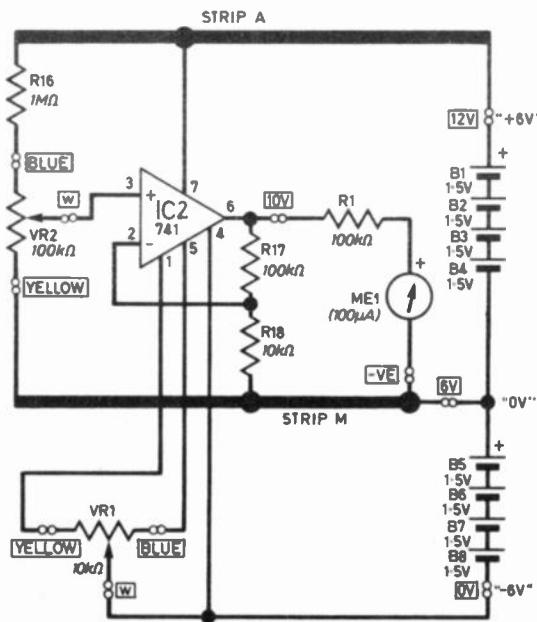

Fig. 7.16. The circuit of a non-inverting op-amp amplifier with fixed gain and offset null control.
Fig. 7.16 shows feedback being taken from a potential divider (R17/R18), so
- 7.9. If pin 3 (Fig. 7.16) is taken to -0.1V, what will be the output at pin 6?
- 7.10. In Fig. 7.16 if  $R_{16} = 1\text{M}\Omega$ ,  $R_{17} = 6.8\text{k}\Omega$ , and the voltage at pin 3 = 0.01V, what will be the output at pin 6?